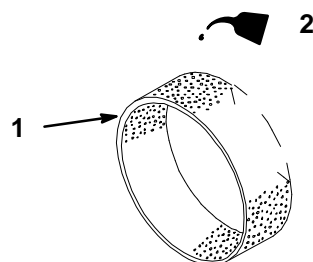

Figure 21
- C. Put one or two ounces of oil on the element (Fig. 21). Squeeze the element to distribute the oil.